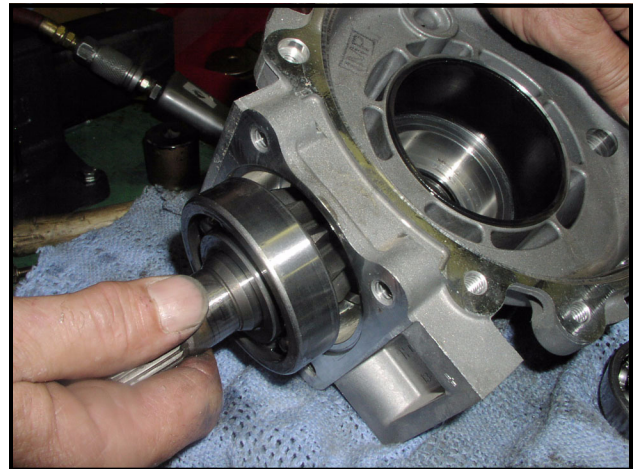

Figure 9-27 Pinion Shaft and Bearing
13. Gently slide the pinion gear shaft and bearing from the gearcase (**Figure 9-27, Page 9-9**).